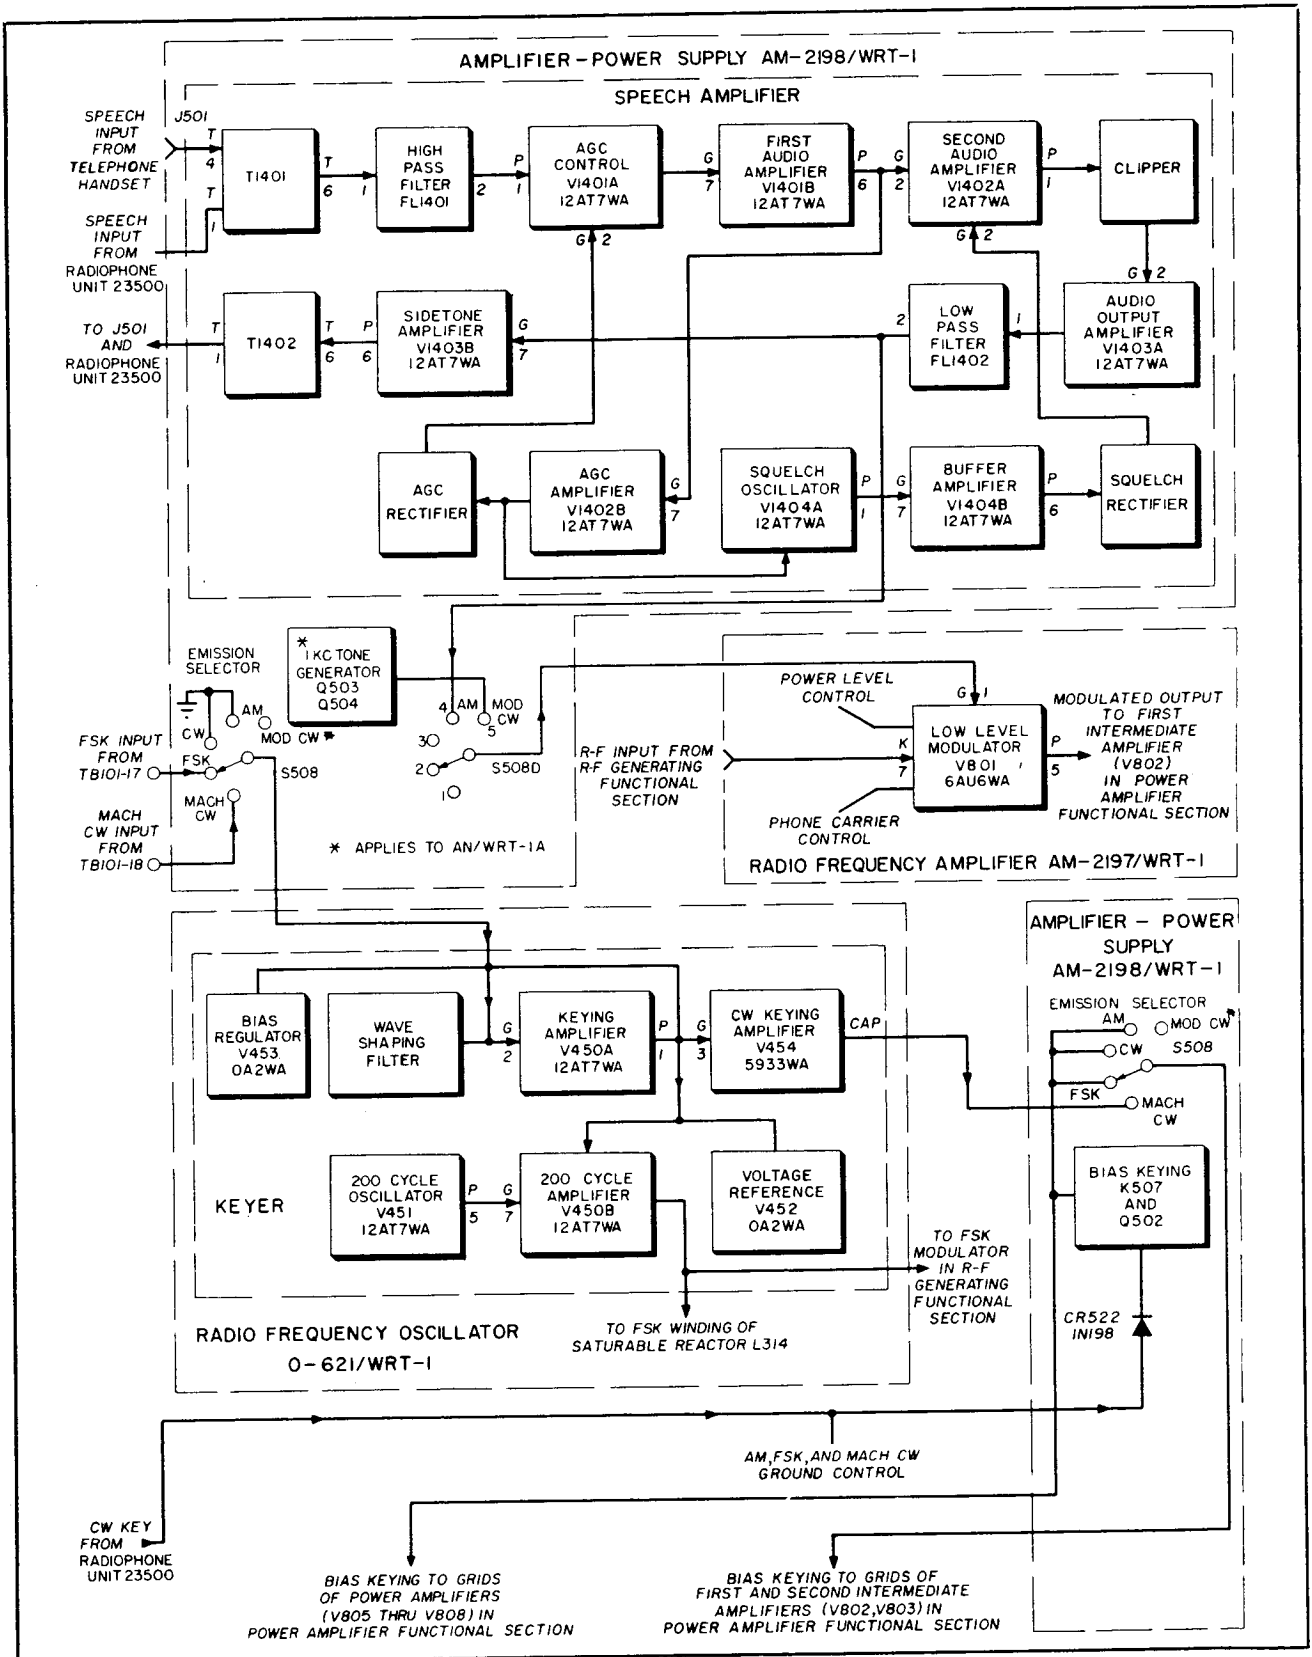

Figure 4-12. Modulating Section, Functional Block Diagram
(1) The modulating functional section adds intelligence to the r-f energy of the r-f generating functional section. In telephone operation (AM) speech signals are applied to a low level modulator and the amplitude of the r-f carrier becomes a function of the amplitude of the speech input. In frequency-shift keying operation (FSK), d-c signals from a teletypewriter
control the frequency of the r-f carrier, shifting the frequency down for a *space* and up for a *mark*. In machine cw operation (MACH CW), d-c keying signals from the keying loop control the operation of an electron-tube keyer, the output of which supplies keying bias to two driver amplifiers in the power amplifier functional section. In hand keyed cw operation (CW), a transistor bias-keying stage controls both the driver amplifiers and power amplifier bias. For submarine installations break-in handkeyed cw operation is possible if Antenna Control CU-1670/U (government-furnished equipment) is used. A block diagram of the modulating functional section is shown in figure 4-12.
(2) As shown in figure 4-12, speech signals from a telephone handset or from Radiophone Unit 23500 are coupled through input transformer T1401 and high pass filter FL1401 to the plate of the AGC control tube, V1401A. Filter FL1401 attenuates all signals of frequency less than 300 cycles. When the AGC OR INPUT LEVEL control R1401 (located on the front panel of Amplifier-Power Supply AM-2198/WRT-1) is rotated fully clockwise to the AGC ON position, the plate resistance of the AGC control amplifier varies inversely with the average level of the audio input and thus the average level of the voltage applied to the grid of the first audio amplifier, V1401B, remains essentially constant. The output of V1401B is coupled to AGC amplifier V1402B and second audio amplifier V1402A. Two functions are performed by the AGC amplifier: The output to the AGC rectifier is used to control AGC control tube V1401A as mentioned above; the output also develops a voltage which disables squelch oscillator V1404A. After amplification by second audio amplifier V1402A, the audio signal is coupled through MODULATION LEVEL potentiometer R1451 (located on the front panel of Amplifier-Power Supply AM-2198/WRT-1) to the grid of audio output amplifier V1403A. When CLIPPING switch S1401 (located on the front panel of Amplifier-Power Supply AM-2198/WRT-1) is placed in the IN position, the output voltage of V1402A increases and the clipper circuit operates to remove positive and negative signal peaks. Audio output amplifier V1403A supplies the audio drive for low level modulator V801. The output of V1403A is coupled through low pass filter FL1402 to sidetone amplifier V1403B and low level modulator V801. Filter FL1402 attenuates all signals of frequency greater than 3500 cycles. The output of sidetone amplifier V1403B is coupled through output transformer T1402 to the telephone handset or to Radiophone Unit 23500 for monitoring purposes. When the audio input falls below a predetermined level, squelch circuits are activated and a cutoff bias is applied to the grid of second audio amplifier V1402A. As mentioned in the discussion above, the normal output of AGC amplifier V1402B disables squelch oscillator V1404A. The audio signal level necessary to disable the squelch is determined by the setting of SQUELCH LEVEL control R1431 (located on the front panel of Amplifier-Power
(3) As shown in figure 4-12, an r-f carrier from the r-f generating section is applied to the cathode of low level modulator V801. During either MACH CW, CW, or FSK operation, V801 functions as a cathode-driven amplifier. During AM operation, audio signals are applied to the grid of V801 and a transformer is connected in the cathode circuit. The voltage of the secondary winding of the cathode transformer opposes the plate output voltage as the audio signal goes positive; when the audio signal goes negative, the plate output falls to a low level and the secondary voltage of the cathode transformer becomes the effective output. Thus the r-f energy is modulated in accordance with the instantaneous polarity of the audio signal: The carrier envelope decreases in amplitude as the audio signal increases; the envelope increases in amplitude as the audio signal decreases. The output of the low level modulator is applied directly to the grid of the first intermediate amplifier in the power amplifier functional section. DRIVE ADJUST control R812 and LOW POWER ADJUST control R811 (located on the front panel of Radio-Frequency Amplifier AM-2197/WRT-1) provide control of the level of r-f input to V801—the latter control functions only during 100-watt operation. During AM operation, AM POWER ADJUST control R810 (located on the front panel of Radio-Frequency Amplifier AM-2197/WRT-1) is placed in the r-f input circuit and is used to limit the drive in order that audio signal peaks do not overdrive the power amplifiers.
(4) As shown in figure 4-12, d-c keying signals from a teletypewriter are developed across FSK termination E502 and applied through EMISSION SELECTOR switch S508 (located on the front panel of Amplifier-Power Supply AM-2198/WRT-1) to the grid of keying amplifier V450A. Two input terminations may be selected: A 2000-ohm or 60-ma loop and a 6000-ohm or 20-ma loop. For MACH CW operation keying signals from an automatic code transmitter are applied through the same wafer of S508 to the keying amplifier. The input resistance of the MACH CW line is fixed at 22,000 ohms. During AM and CW operation, the input to V450A is grounded. The rise-time of the keying waveform applied to V450A is controlled by the setting of WAVE SHAPING switch S450 (located on the front panel of Radio Frequency Oscillator O-621/WRT-1). The switch has four positions: FSK, MULTIPLEX, 200 WPM, and 400 WPM.
(5) For MACH CW operation the output of keying amplifier V450A is directed through the contacts of keying selector relay K302 to the grid of CW keying amplifier V454. The output of V454 is applied through a wafer of EMISSION SELECTOR switch S508 (see figure 4-12) to the grids of the first and second intermediate power amplifiers in the power amplifier functional section. When the MACH CW loop is open, a high negative bias is applied to cut off the two drivers; when the loop is closed, the bias is removed. Bias keying relay K507 is energized during MACH CW operation to reduce the grid bias on the power amplifiers and thereby place them in a conducting state.
(6) For FSK operation keying selector relay K302 is energized and the output of keying amplifier V450A controls the bias on one winding of a saturable reactor located in the grid circuit of the master oscillator. When a *mark* signal is on the line the polarity of the bias signal to the saturable reactor is such as to decrease its inductance; thus the frequency of the master oscillator is increased. When a *space* signal is on the line, the polarity of the bias signal is reversed and the frequency of the master oscillator decreases. The amount of frequency separation between the *mark* and *space* signals is determined by the setting of SHIFT
(7) For types of emission other than MACH CW, bias keying to the driver and power amplifier stages in the power amplifier functional section is achieved by the operation of a keying relay in Amplifier-Power Supply AM-2198/WRT-1. As shown in figure 4-12, during FSK and AM operation, ground is applied to the anode of keying diode CR522, causing transistor Q502 to conduct and bias keying relay K507 to apply a ground to the driver grids through EMISSION SELECTOR switch S508. At the same time, the grid bias of the power amplifiers is reduced to the nominal
(8) On Radio Transmitting Set AN/WRT-1A, a 1000 cycle tone generator has been added to facilitate a means of providing a continuous tone modulated signal which can be monitored by an approaching aircraft within the vicinity of a surface vessel. Referring to figure 4-12, placing the EMISSION SELECTOR switch to the MOD CW position activates the 1000 cycle tone generator. The impulses produced by transistor Q503 are used to excite a tank circuit in the collector circuit of Q503. The oscillation in the tank circuit are sustained by a regenerative feedback, which enables